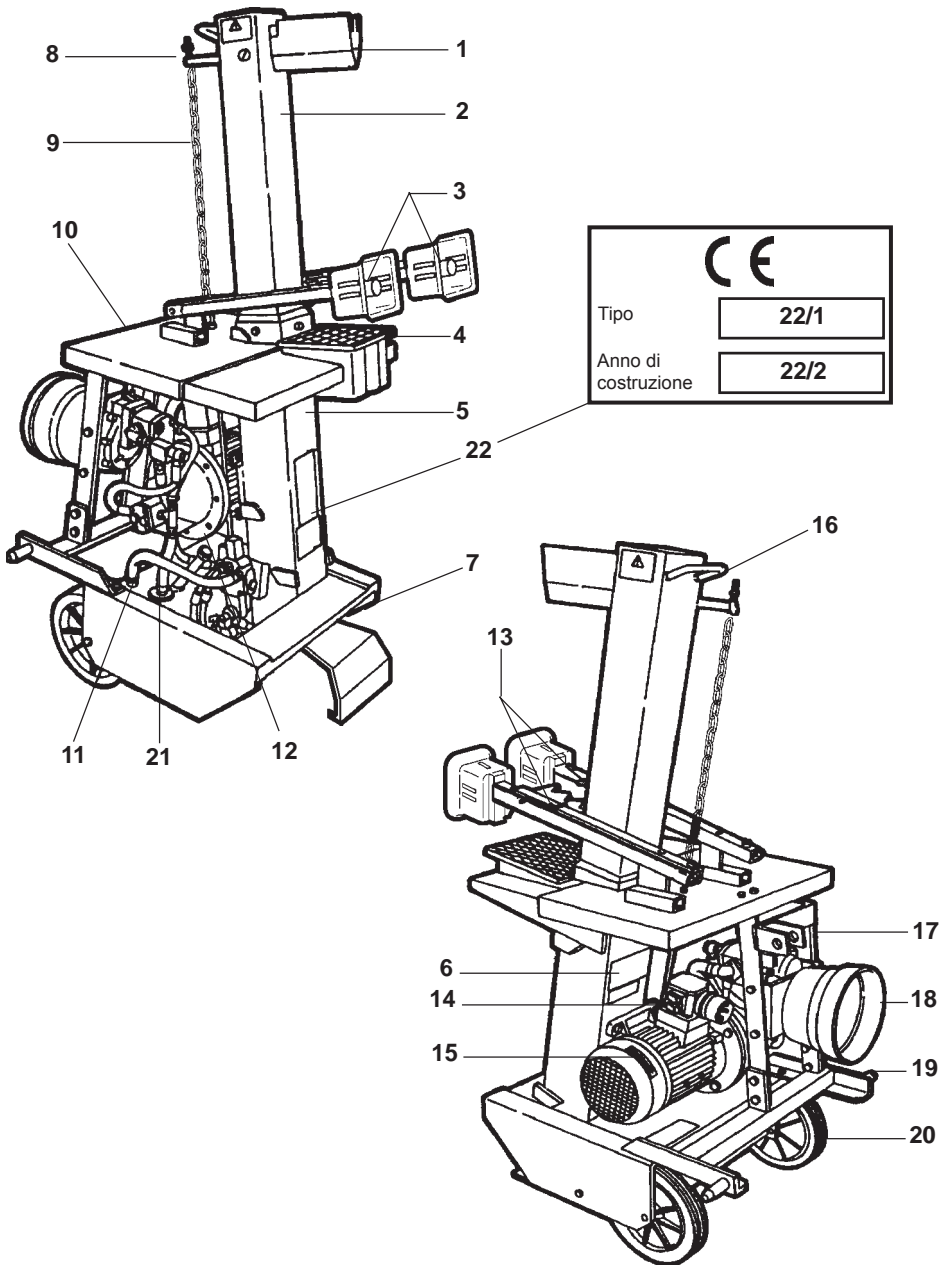

Fig. 1 - Electrically operated Wood-cutter, Mod. 900+PTO with a three-point coupling to the tractor (this is the most complete version).
1.2 DESCRIPTION OF THE WOOD-CUTTER (FIG. 1)